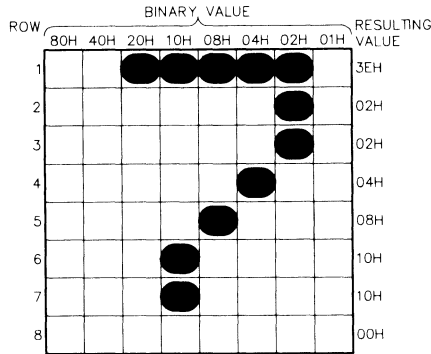

Figure 11-1. Character Design Matrix
2. Define each character in an 8×8 matrix as shown by the 7 in Figure 11-1. Since the top line in the matrix butts up against the bottom line of the character above it, you will need to allow for ascenders and descenders. Also, do not forget to allow space between characters.